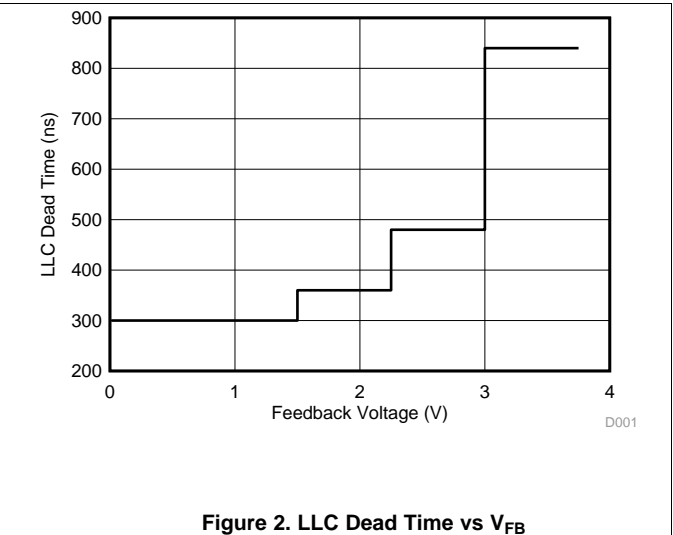

Figure 2. LLC Dead Time vs  $V_{FB}$
(8) Refer to Figure 2.
(9) Refer to Table 4 for other LLC Stage Over-Current Protection Levels.